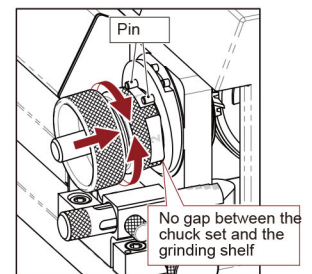

Fig. 4-1
1. Cutting Lip Grinding (Fig. 4-1)
- ① Insert the chuck set into the corner radius grinding shelf, align the slot of clamping nut to the two pins on the grinding shelf, push the chuck set gently and turn it clockwise and counterclockwise until the grinding noise stops.
- ② Take the chuck set out, turn it to the other side and grind the end mill in the same way.